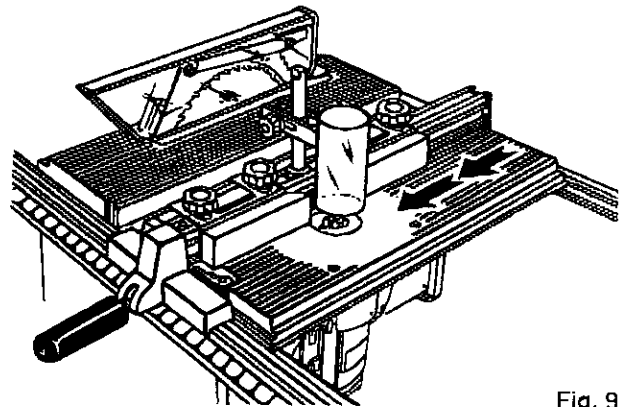

Fig. 9
After all the router mounting parts have been assembled, your setup should be similar to *Figure 9*.
- Direction of feed of the workpiece is from right to left as shown by the arrow in *figure 9*.